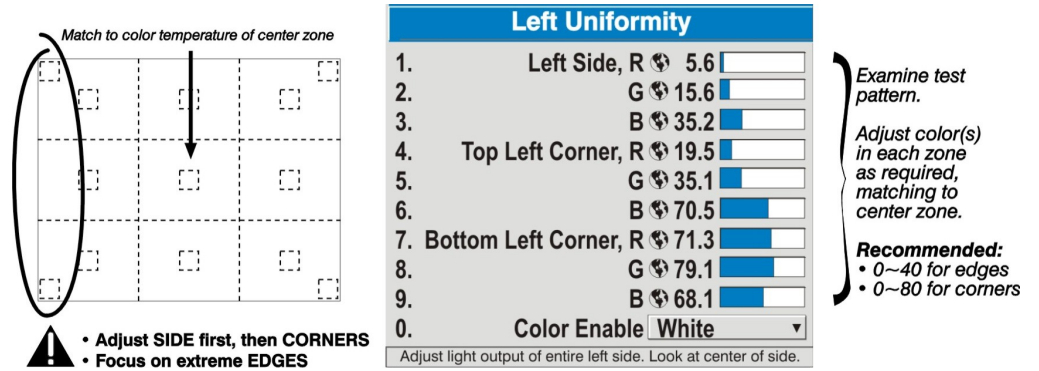

Figure 3.31. Match Zones to Center Color Temperature
- 2b) Return to the *Brightness Uniformity* menu. Beginning with the screen that exhibits the most obvious color shift(s), for each edge that exhibits a noticeably different color temperature from the center, select the corresponding *Uniformity* adjustment menu—*Left, Right, Top* or *Bottom*. For example, if any part of the left side is too blue, too red or too green, go to the *Left Uniformity* menu and adjust the colors (i.e., change their light output) until all portions of the left side closely match the center color temperature. Adjust an edge first (focusing on its centerpoint), then adjust its corners. See Figure 3.31.